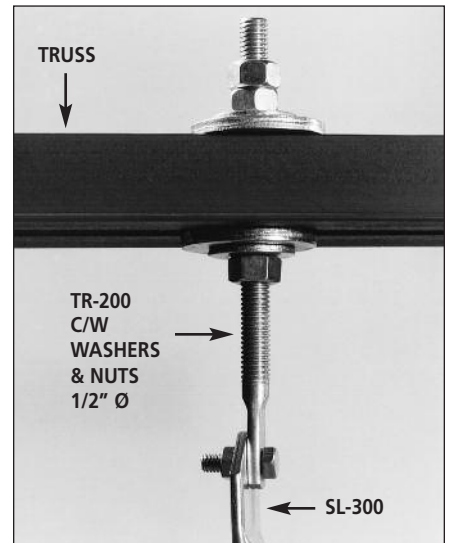

Figure 7
- **Figure 7** shows method of hanging directly under a truss where possible. A TR-200 threaded rod is passed directly up through the truss and secured.